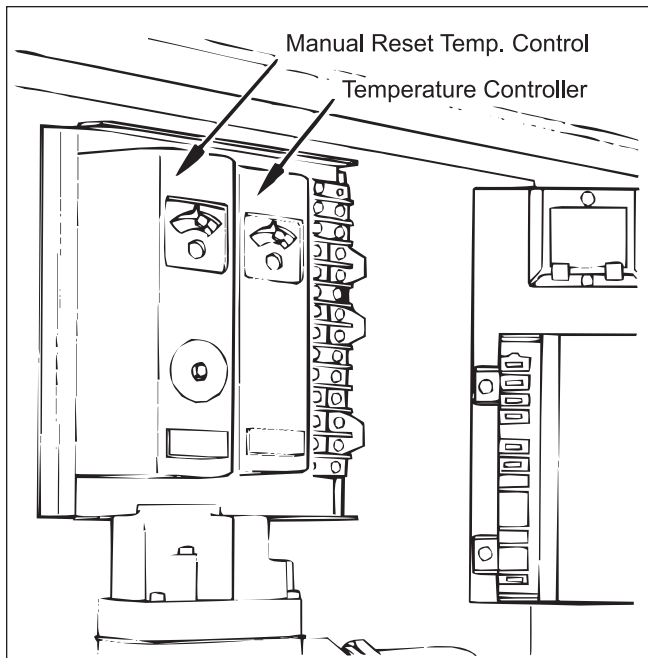

Figure 28. Temperature controls.
3. Set the temperature control (see Figure 28) to its lowest setting.